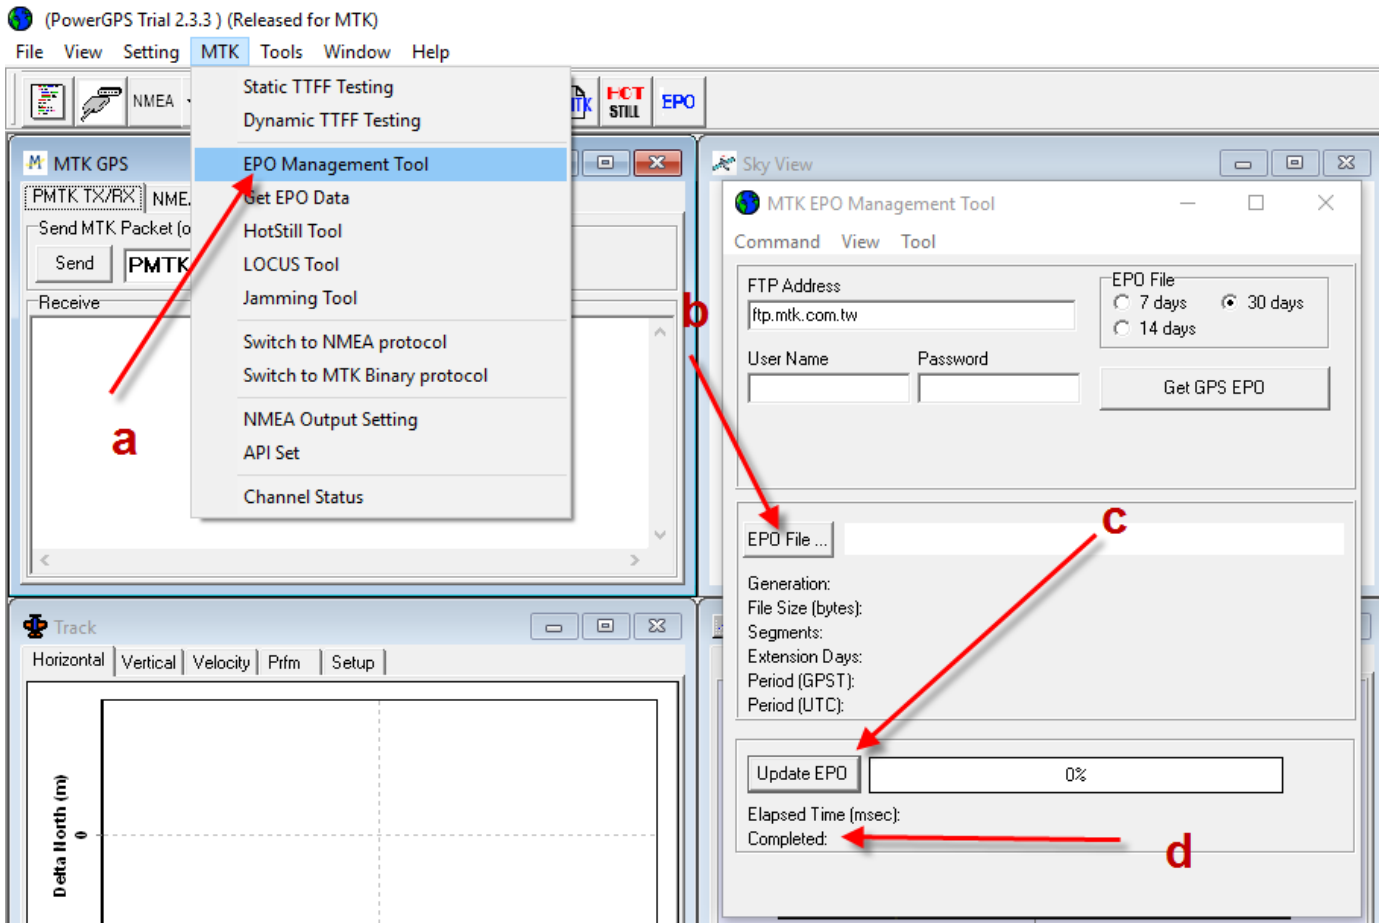

Figure 7 – EPO management tool
- A. On top menu – select MTK->EPO Management Tool. (see figure 7)
- b. You will have a “MTK EPO Management Tool” window opened. Press the “EPO file...” button, and browse for the attached EPO14days.dat (figure 7).
- c. Press “update EPO” button. The progress bar will run as the process go on. (figure 7)